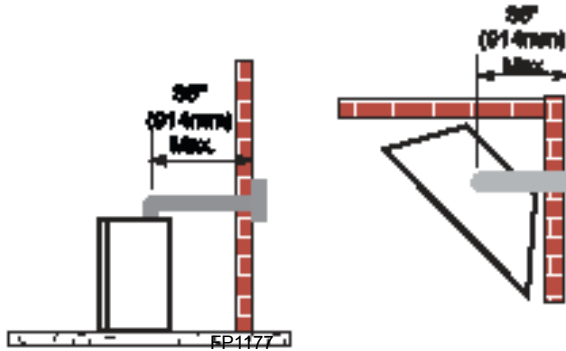

Figure 35 – Maximum horizontal run with no rise
- If a 90° elbow is fitted directly on top of the fireplace flange the maximum horizontal vent run before the termination or a vertical rise is 36" (914 mm). Figure 35